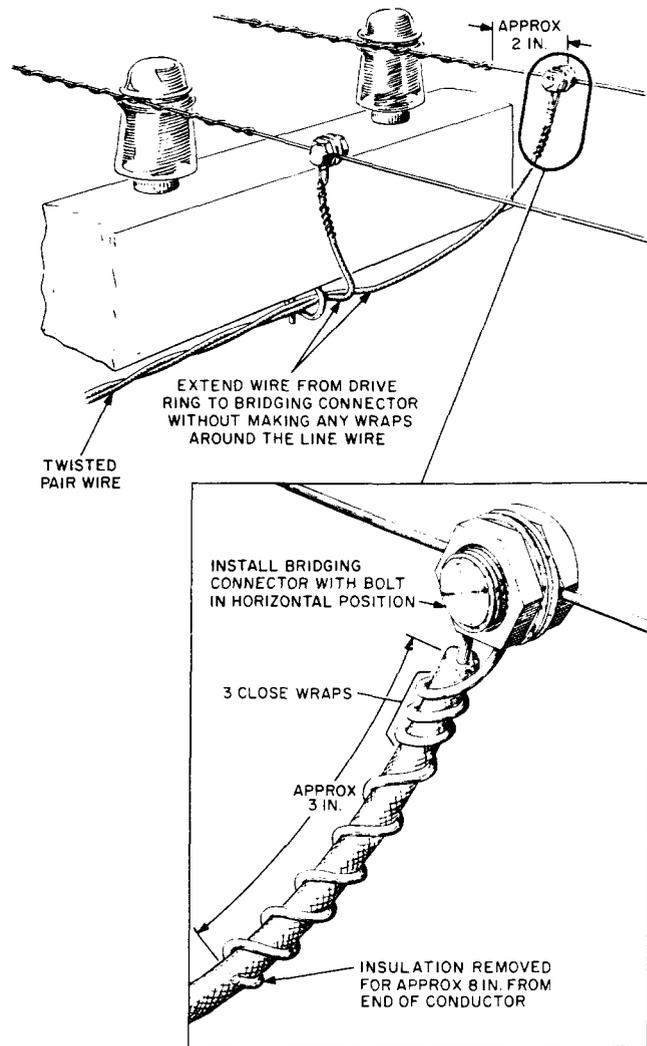

Fig. 7—Where Line Wires are Tied to Pin-Type Insulators
- (4) Extend bridle wire directly from last drive ring to bridging connectors without making any wraps around the line wire.
- (5) Connect each conductor at the open wire by means of a bridging connector installed with the bolt in a horizontal position and extend the excess length of bare conductor back on the insulated portion in spiral wraps as shown in Fig. 7 and 8.